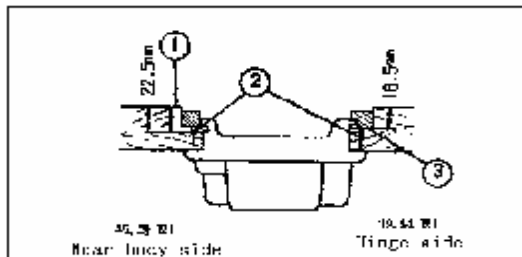

图1 Fig.1
四、机器的安装(图 1)
1. 油盘的安装: 将油盘支座①和油盘座③装在台板矩孔的四角,用油盘座钉②将其固定,再装上油盘(图 1).
4、Installation of the machine(Fig. 1)
Put the oil reservoir rubber cushion ① and oil reservoir felt cushion ③ on four corners of the opening of the table, fix them with the wood screws ②, then instal the oil reservoir(Fig. 1)